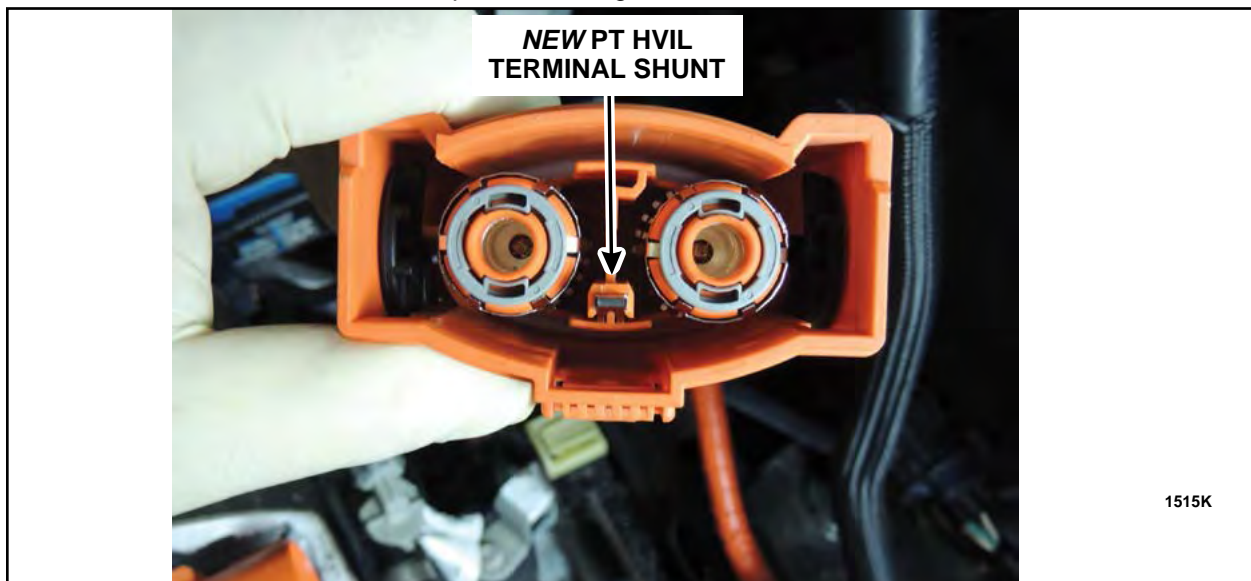

FIGURE 10
- Install the *new* PT HVIL Terminal Shunt by slowly sliding into the slotted opening until an audible "click" is heard and the shunt is locked in place. See Figure 10.